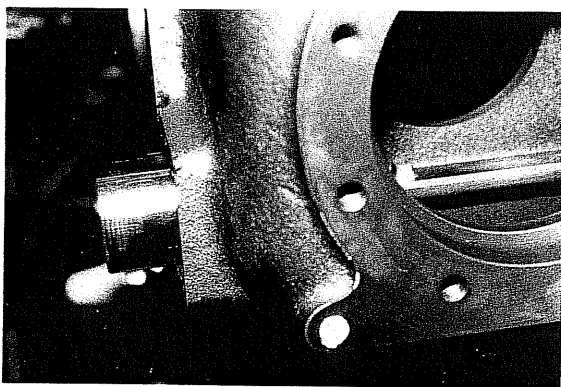
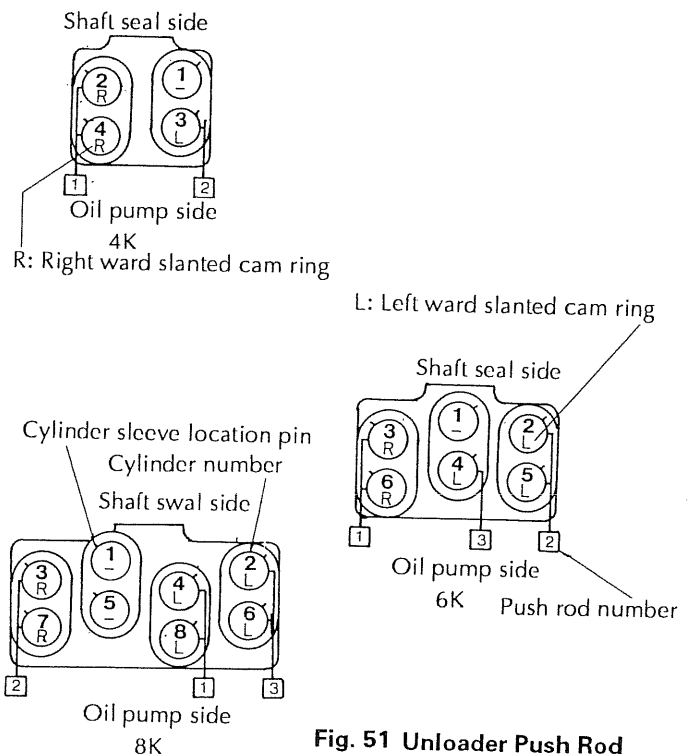

Fig. 48 Unloader Piston
Fig. 51 Unloader Push Rod and Cam Ring
- c) Remove the cover. The unloader piston, push rod and spring can now be easily removed (Fig. 48~50). The length of the push rod will differ according to the position of the related cylinder. The mounting position of the cylinder and cover should be recorded (Fig. 51).